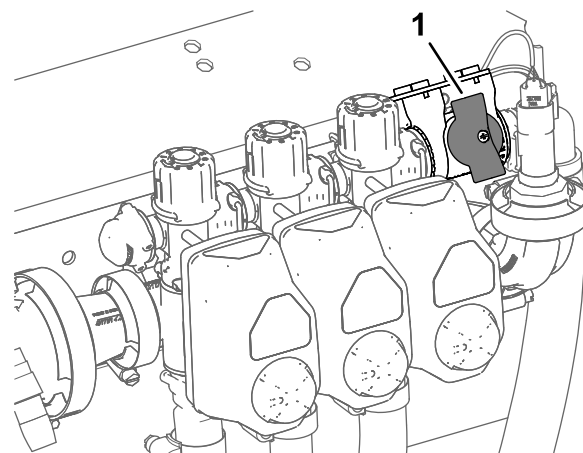

Figure 34
2. Rotate the knob for the section-bypass shutoff valve to the closed position (Figure 34).